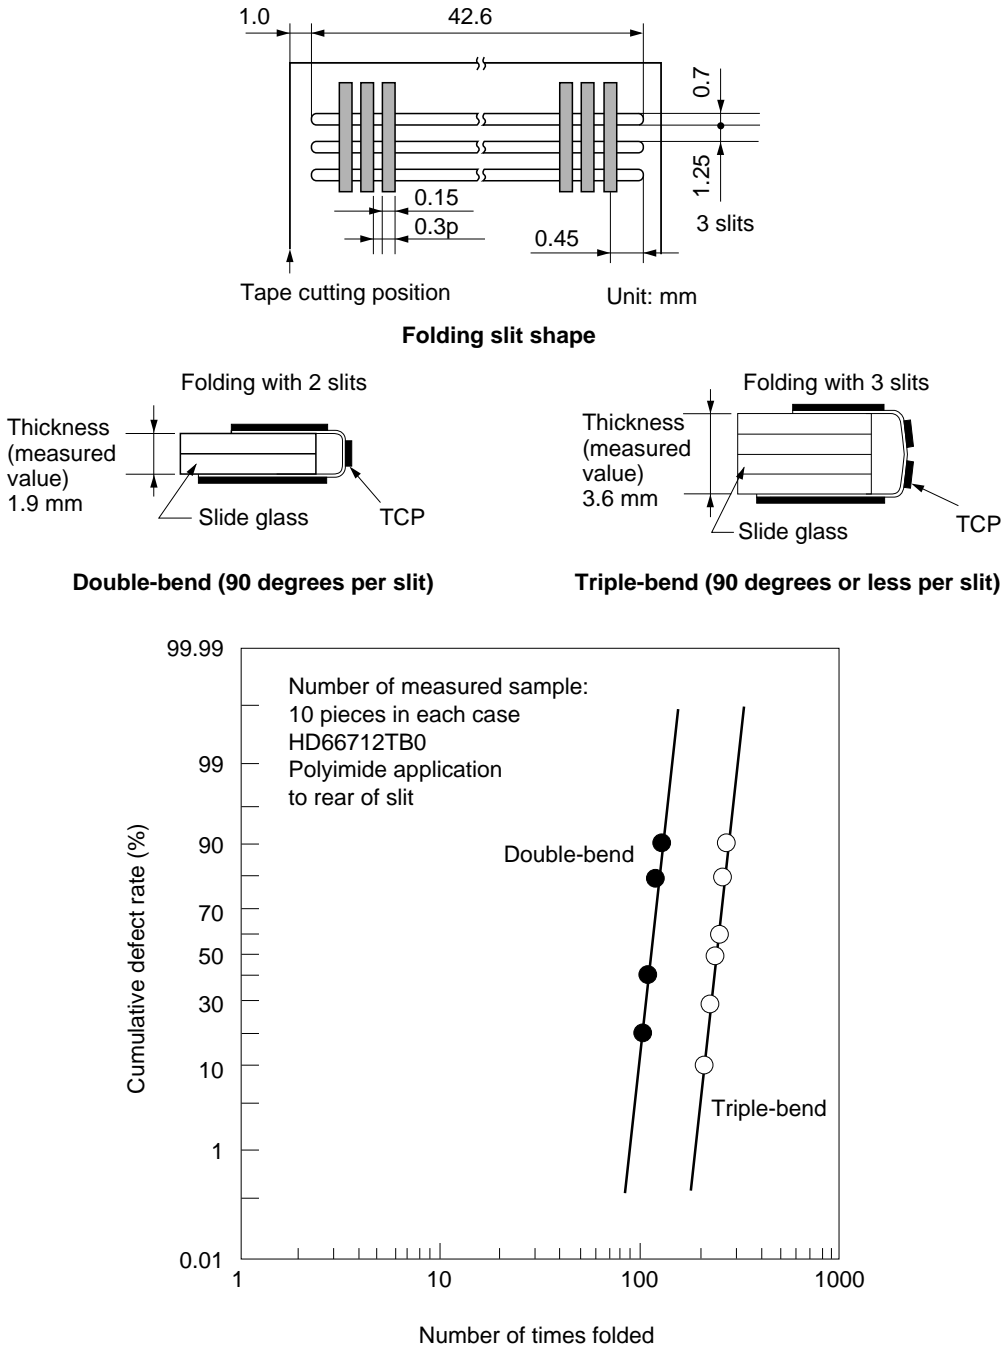

Figure 18 Example of Number of Times Folded vs Cumulative Defect Rate
4. The number of folding TCP bending operations that can be performed before the lead breaks is shown in figure 18. The greater the bending